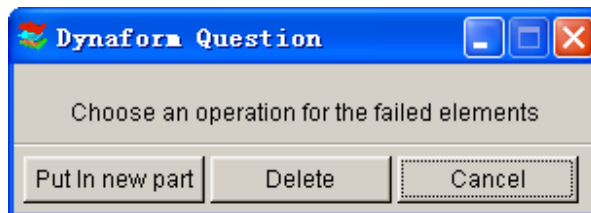

Figure 5.6.5 DYNAFORM Question
2. At same time, a DYNAFORM QUESTION window appears as in Figure 5.6.5. Select PUT IN NEW PART, and the CREATE PART dialog window appears. Select DELETE, and all failed elements are deleted. Select CANCEL, and the function exits.